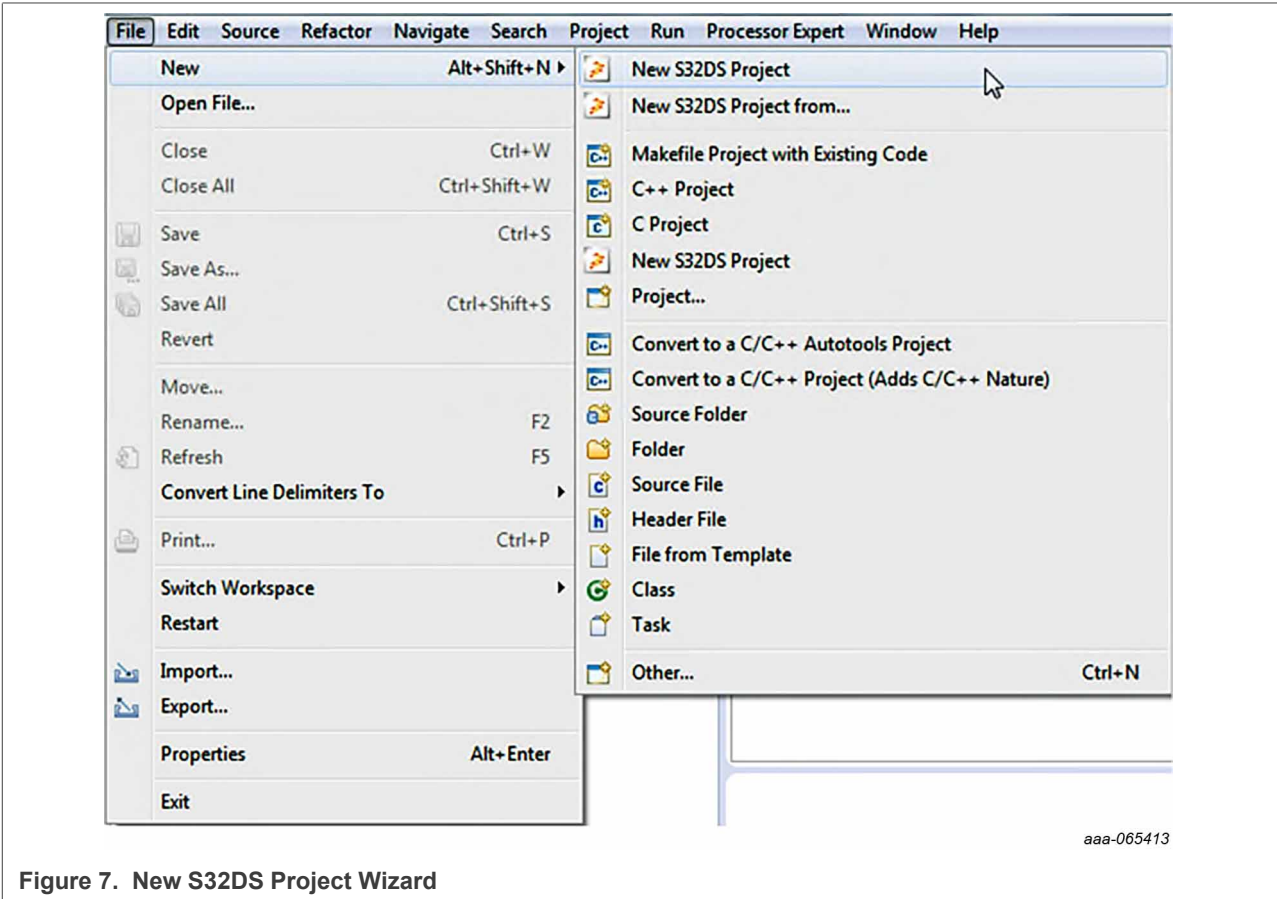

Figure 7. New S32DS Project Wizard
- 1. In the S32 Design Studio menu bar, select **File >New >New S32DS Project**, as shown in Figure 7.